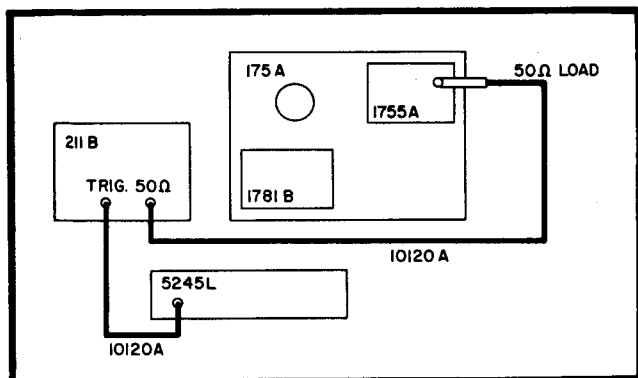

Figure 5-2. Dial Accuracy Check
a. Refer to Figure 5-2 and Table 5-1 and connect required equipment
a. With Model 211B connected as shown in Figure 5-2, set the controls as follows: